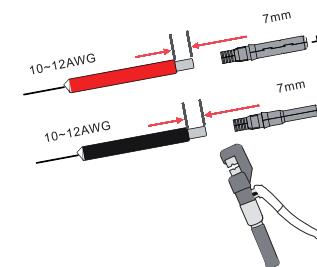

Figure 4.1-2 Crimp the terminal to the wire
Step 2. Crimping metal terminals with crimping pliers, as shown in Figure 4.1-2.